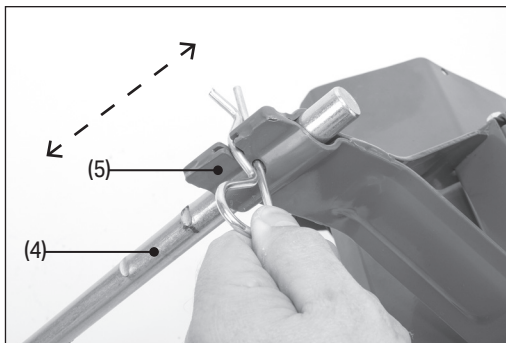

Fig. 14
To adjust the tilling depth, set the height of the drag bar (4). The higher the drag bar sits in the drag bar socket (5), the deeper the tines will cut into the soil. The drag bar can be set in three positions (Fig. 14).